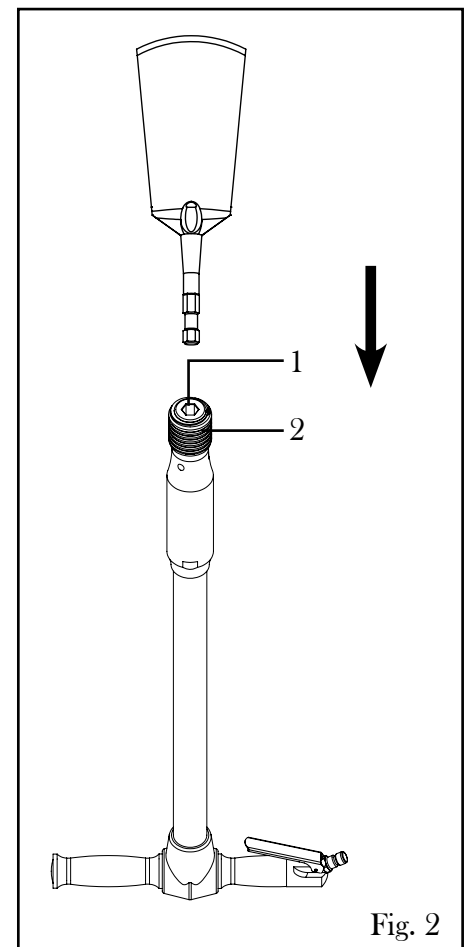

Fig. 2
Lubricate the attachment receiver (Fig. 2 - 1) before first use. Before each subsequent use, check that the receiver is lubricated. Failure to lubricate the receiver may shorten the lifespan of the tool.
2. Hold the tool upside down with the attachment receiver (Fig. 2 - 1) pointing upwards. Support the other end on the ground. Make sure the attachment receiver is lightly lubricated.
4. Slide the locking sleeve (Fig. 2 - 2) downwards until the tool slides into the receiver. Guide the locking sleeve up to lock the tool in position.
To remove the attachment, make sure the tool has been disconnected from the air supply. Slide the locking sleeve (Fig. 2 - 2) halfway downwards and pull the attachment out. Guide the locking sleeve back into place.